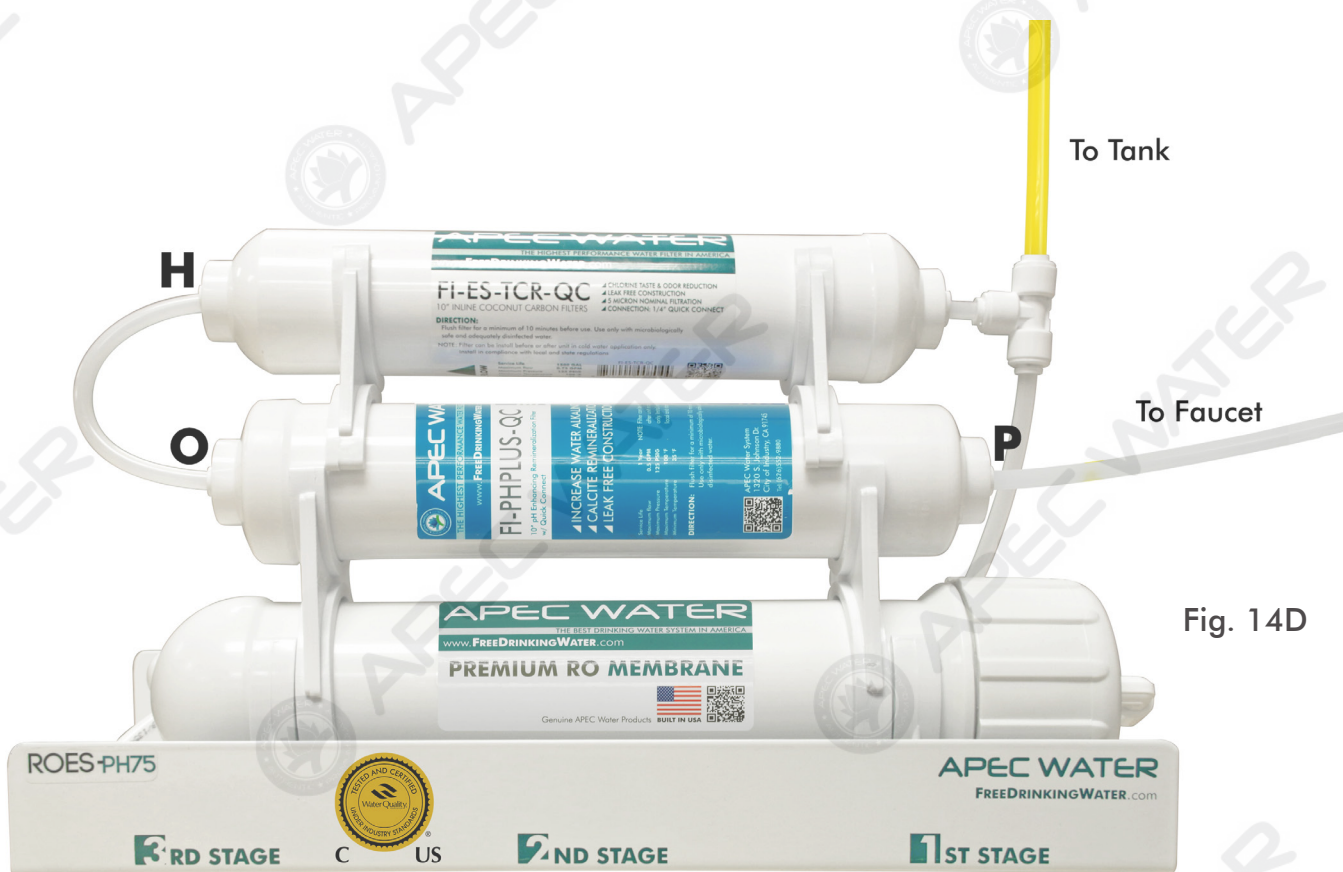

Fig. 14D
- 2) Remove the **CLEAR** outlet tubing at **Point P**. See Fig. 14D. To remove the tubing Push In and hold down on the collet ring square against the fitting. With the collet held in this position the tube can be removed. Once the outlet tubing is disconnected, please remove inlet tubing at **Point O**. Remove old filter and discard.